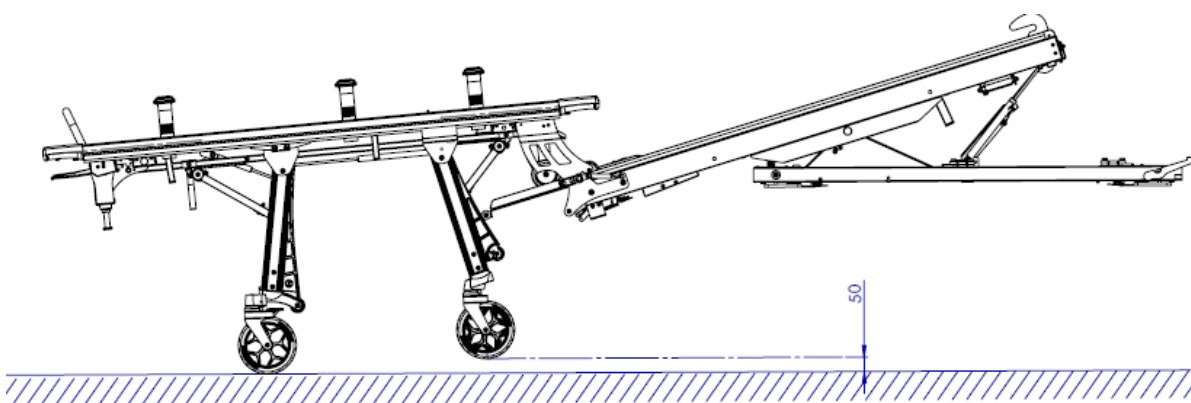

Figure 3
- Minimum loading height: when the loading wheels are placed on the platform and the front legs touch the platform, the front wheels must be at least 50 mm from the ground (see figure 3)